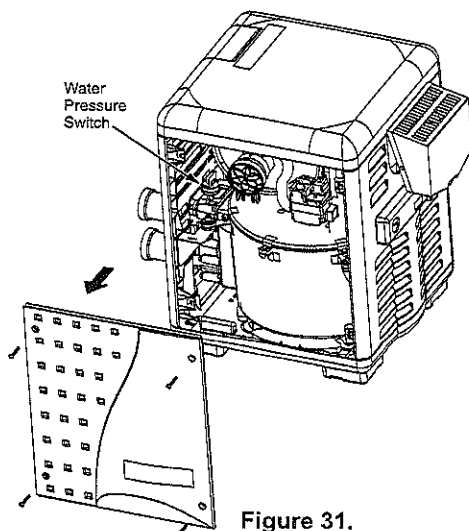

Figure 31.
1. Remove the four corner wing nuts that secure the top panel. Lift the top panel upward to remove the top panel. Note: If needed, remove the wires from the control board if the top is removed completely. See Figure 31.